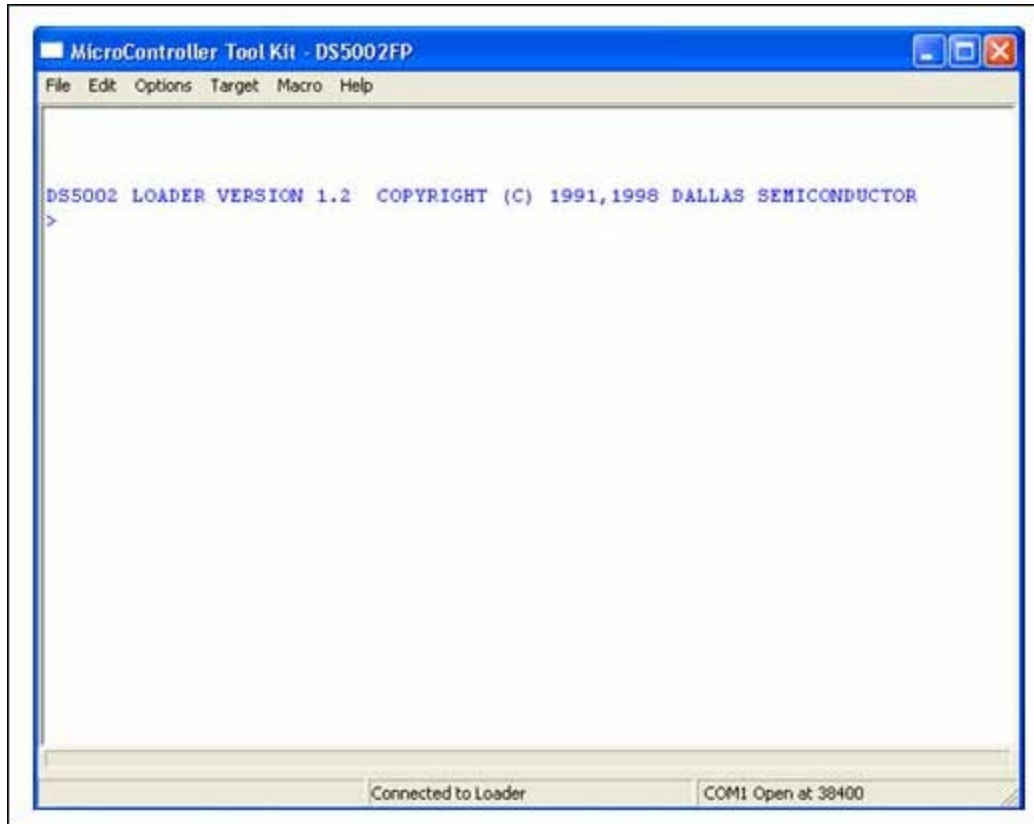

Figure 6. DS5002FP boot loader banner.
5. Make sure that the board's serial port is connected to the PC and that 5V power has been applied. Click "Target" and "Connect to Loader." If successfully connected, the DS5002FP will display its Boot Loader Banner shown in **Figure 6**.